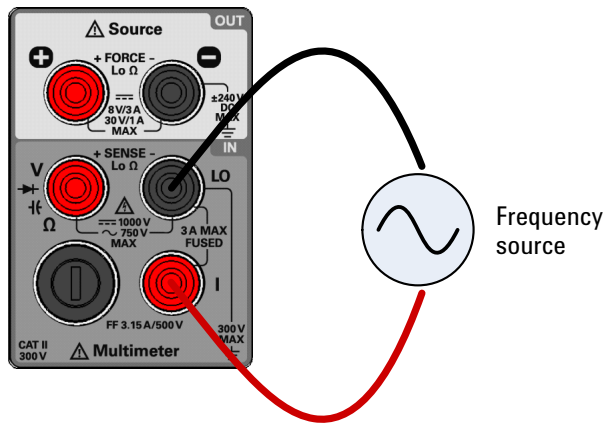

Figure 2-6 Terminal connections for frequency, pulse width, and duty cycle measurement via the current path
- 2 Connect the red and black test leads to input terminals **I** (red) and **LO** (black) respectively as shown in **Figure 2-6**.
- 3 Connect the red and black test leads to input terminals **I** (red) and **LO** (black) respectively as shown in **Figure 2-6**.